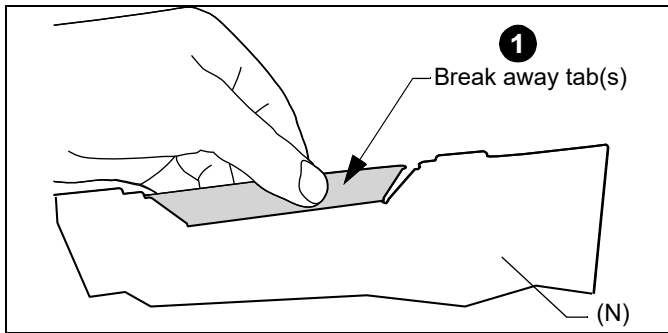

Figure 13
- Break away the tab(s) on the cover (N) to allow wire exit from the PAC525/526, and to meet ventilation needs of the components. (See Figure 13)